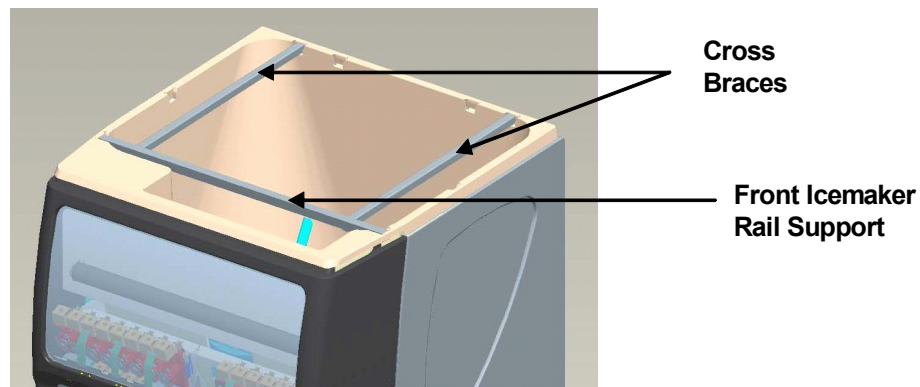

FIGURE 3
2. Place Icemaker rail support into pockets in the ice bin as shown in Figure 3